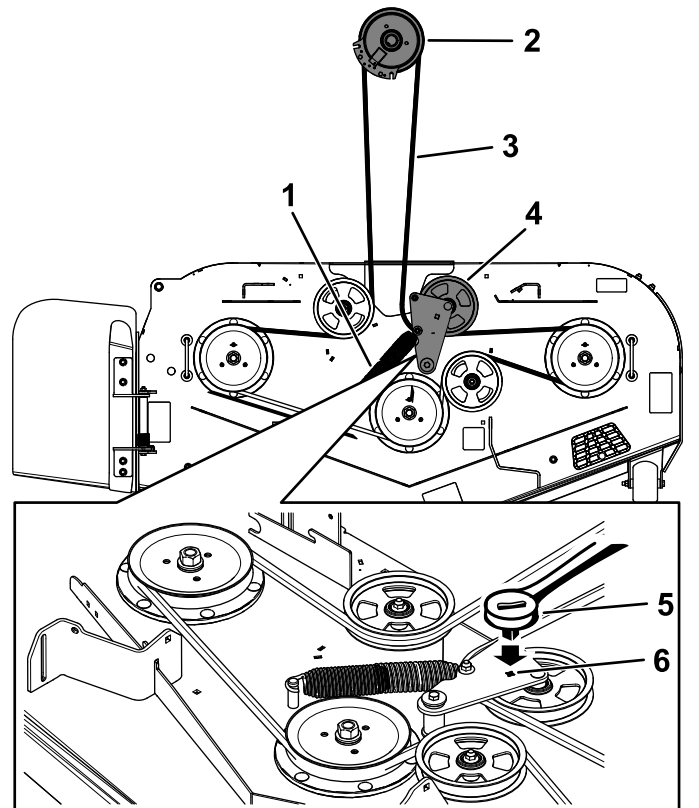

Figure 84
6. Use a 3/8-inch ratchet in the square hole in the idler arm to remove the idler spring (Figure 84).
8. Remove the belt guide on the spring-loaded idler arm (Figure 84).
10. Install the new belt around the mower pulleys and the clutch pulley under the engine (Figure 84).
11. Install the belt guide on the idler arm (Figure 84).
12. Using the 3/8-inch ratchet in the square hole, install the idler spring (Figure 84).